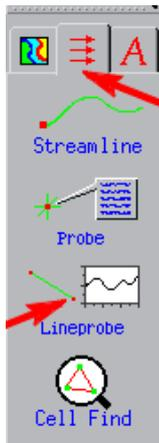
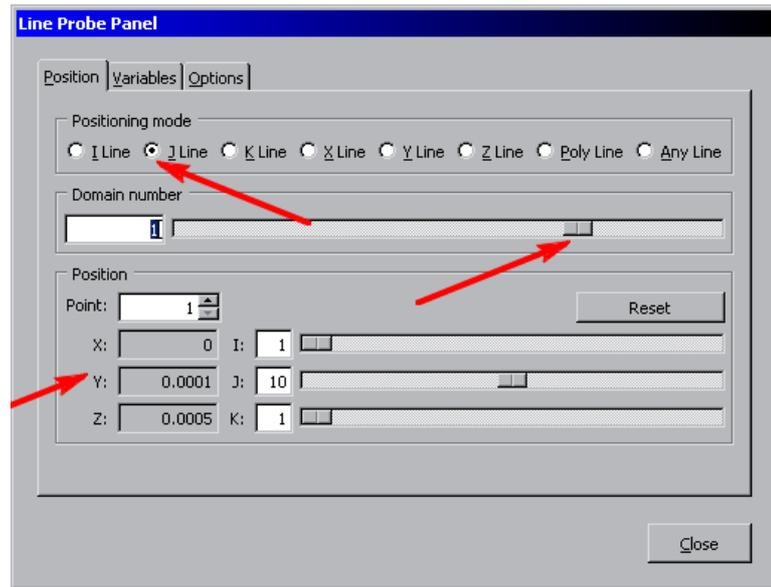

Fig.77. The *Line Probe* tool
Fig.78. The *Line Probe Panel* – The *Position* tab
- To draw a profile of the membrane, use the *Line Probe* tool from the *Probes* tab of the toolbar (see Fig. 77). When you select the tool, the *Line Probe Panel* is displayed (Fig. 78).